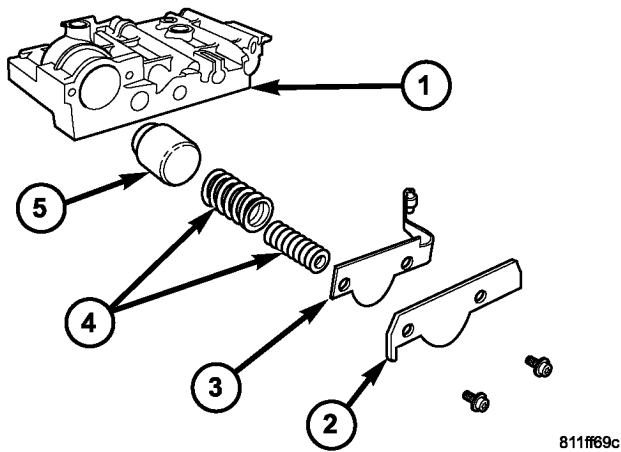

Fig. 343 2/4 Accumulator Assembly
(12) Install 2/4 Accumulator components as shown in (Fig. 343).